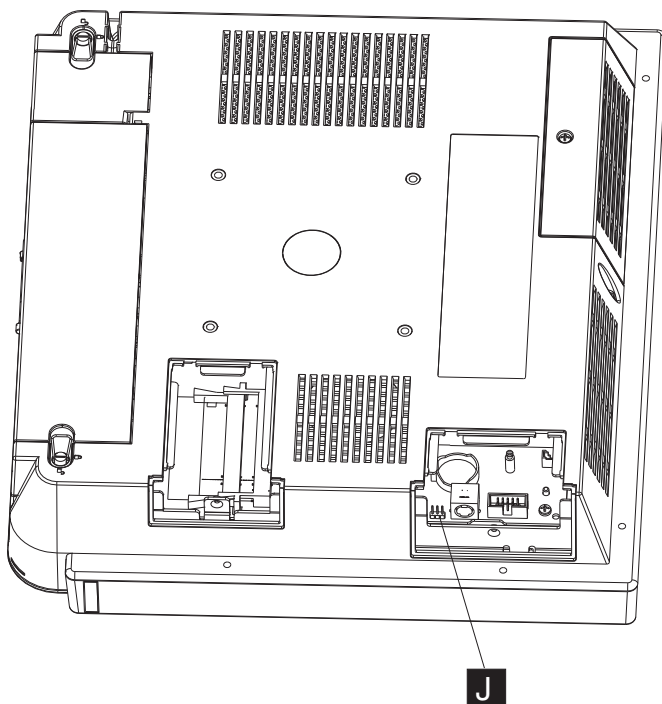

Figure 26. Location of the CMOS jumper
4. Locate the blue CMOS jumper near the memory card. See **J** in Figure 26.